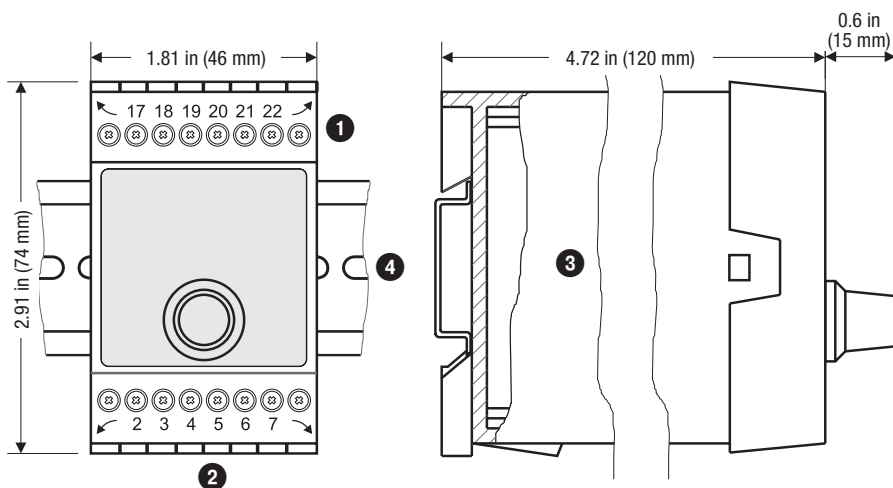

Fig. 5
The NRR 2-50, NRR 2-51 level controller is clipped onto a type TH 35, EN 60715 support rail in the control cabinet. **Fig. 5** ④